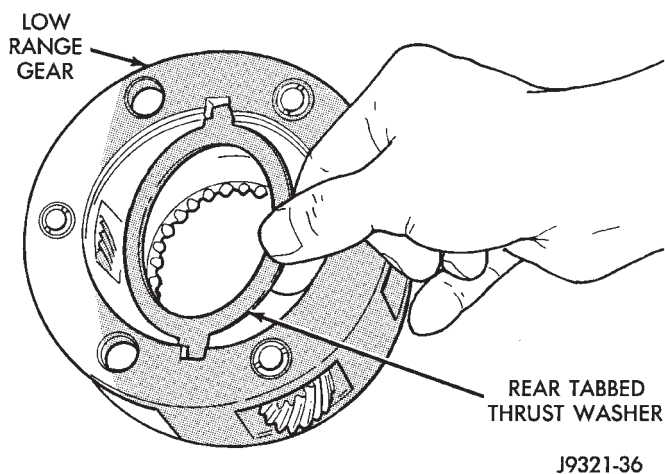

Fig. 39 Rear Tabbed Thrust Washer Removal
- (5) Remove rear tabbed thrust washer from low range gear (Fig. 39).